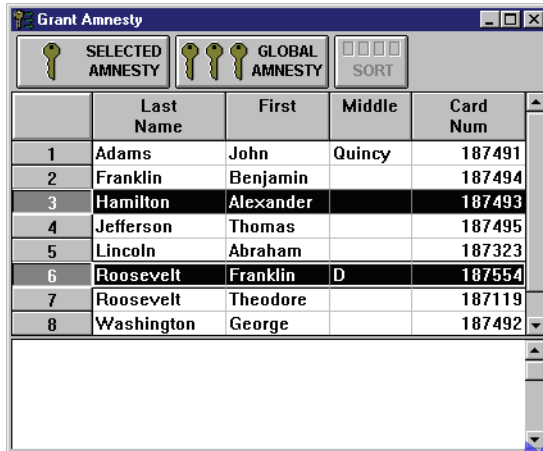

Figure 6-30: Selected Multiple Users to Grant APB Amnesty
- Hold down the “Ctrl” key. Scroll through the list of users eligible to be granted APB amnesty and locate the desired users. As a user is located, click on that user’s name. The name becomes highlighted indicating it has been selected. See Figure 6-30.